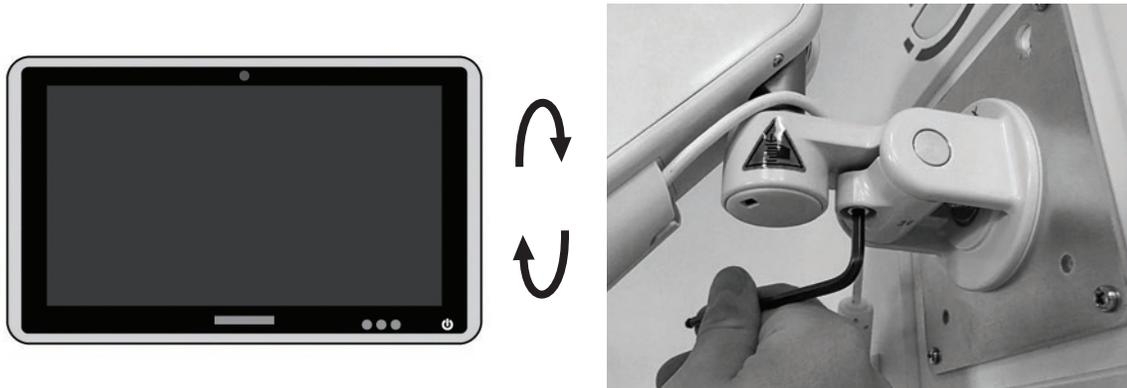

Figure 7: Tilting Tension Adjustment
1. To adjust the forward and backward tilting tension, use a 5/32" allen wrench adjust the bolt on the VESA Mount. See Figure 7.